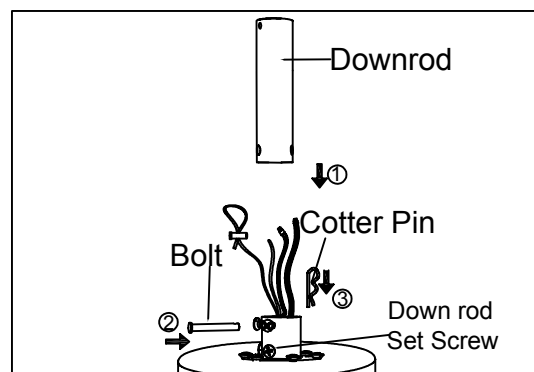

Figure 1.2
- Insert the lower rod bracket at the top of the motor. Install the Bolt by aligning the hole in the lower rod bracket with the hole in the lower rod. Secure the Bolt with a cotter pin. Tighten the two fixing screws in the lower rod bracket.(Figure 1.2)